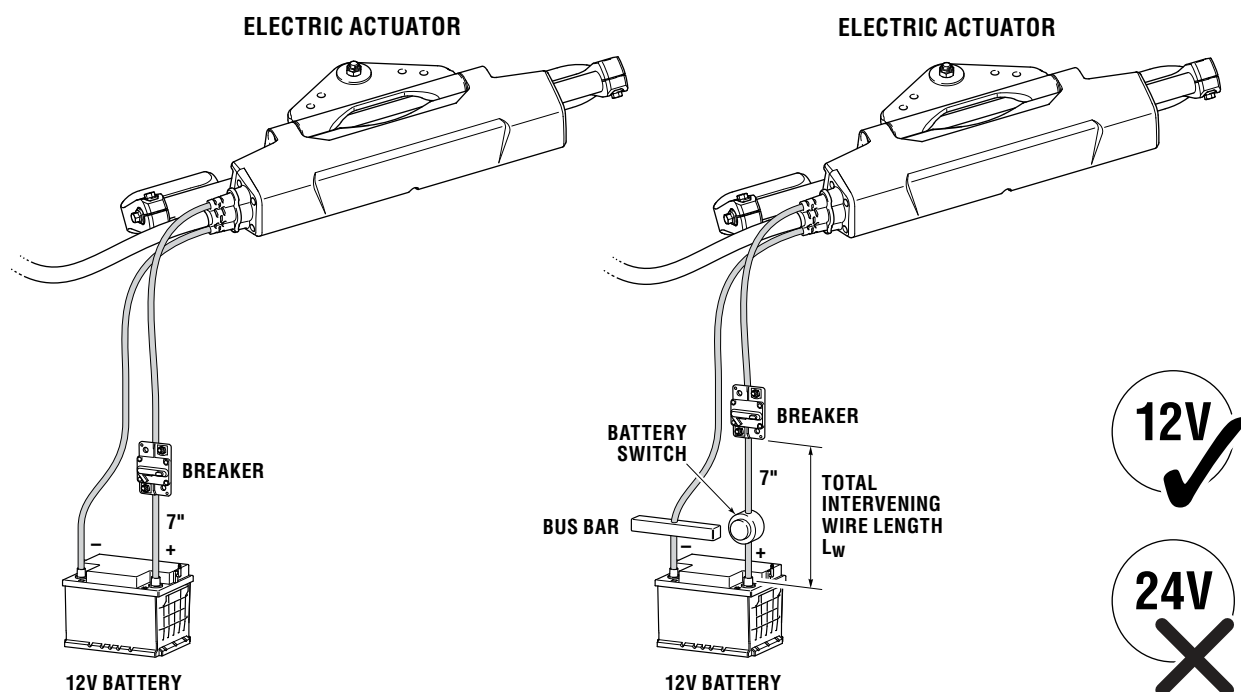

Figure 5-13.
Figure 5-13 shows a sample power schematic. For each actuator in your system, you will need the following items (not included with your installation kit):
- Red wire that meets ABYC requirements, of the appropriate size for the intervening wire length between the actuator harness and the battery (see figure 5-13 and table 5-5).